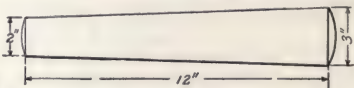

FIG. 38.
**85. Taper of Keys.**—In keys, cotters, and stake wedges, it is customary to express the inclinations as a certain amount per foot, or taper per foot. Thus, in Fig. 38, the inclination would be  $3 - 2 = 1$  inch in 12 inches,